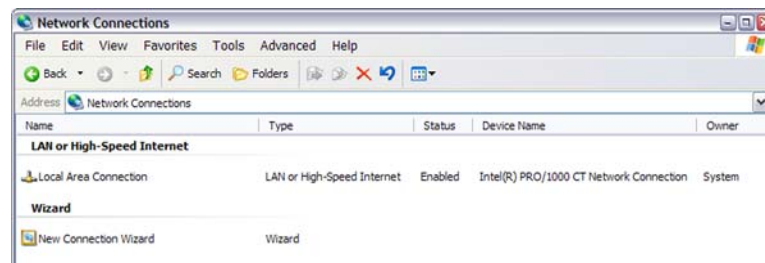

Figure 64: Network Connections window
3. From your desktop, click **Start > Settings > Network Connections**, or **Start > Control Panel > Network Connections**. The Network Connections window appears (Figure 64).